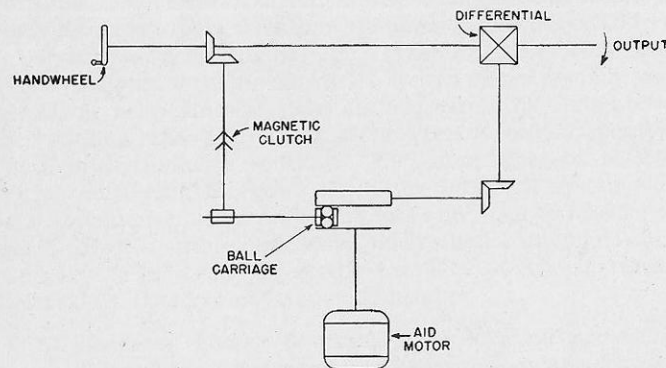

FIGURE 36.—Aiding mechanism.
■ 29. **AIDED TRACKING.**—The operator's control units for range, azimuth, and elevation are all provided with aiding mechanisms. Figure 36 is a simplified schematic diagram il-